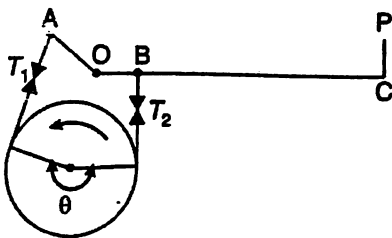

Figure 1
- 9 For self locking of brakes, the force P at point C will be (Figure 1)